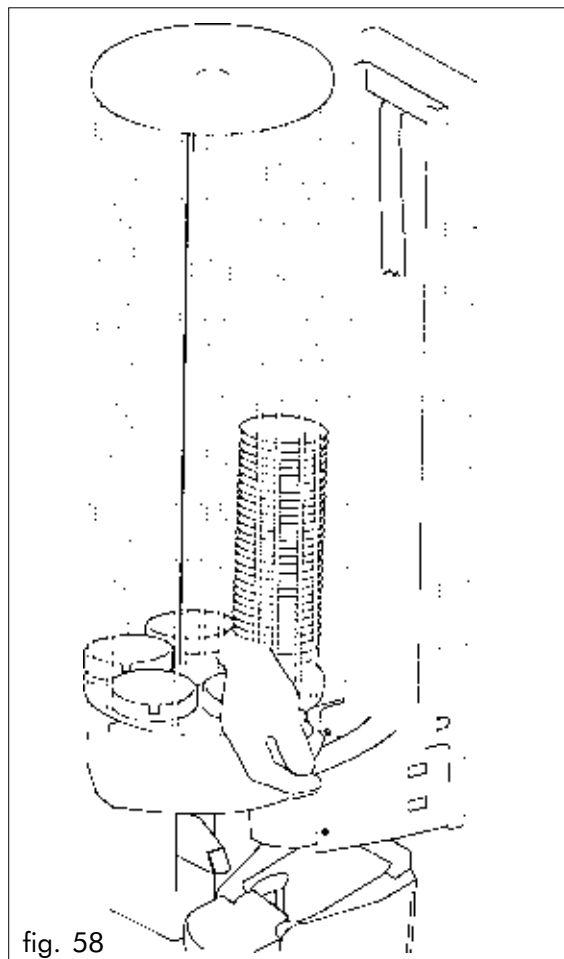

fig. 58
- Insert the spoons with their pack wrapping in the column and when they are positioned on the bottom, cut and remove the wrapping (fig.58).